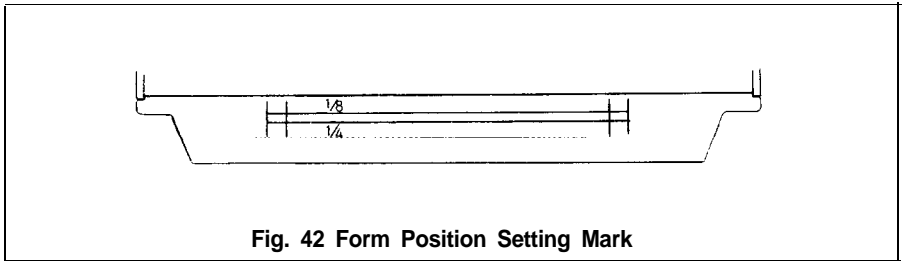

Fig. 42 Form Position Setting Mark
- b) If the cut paper sheet or form is not long enough to align the side edges, align the top edge of the paper with the form position setting mark on the tractor unit. (See Fig. 42.)